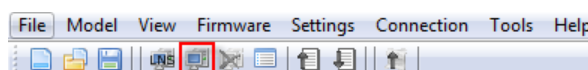

Figure 71: LINX Configurator software, Connect to device
1. Select the IP connection method by clicking on the **Connect to device** button in the toolbar as shown in Figure 71.